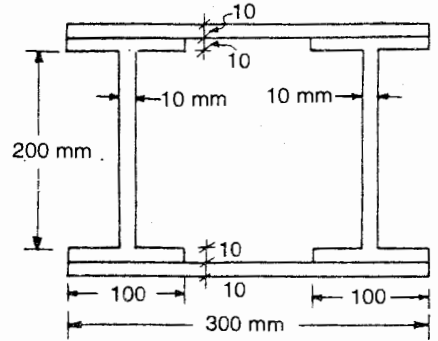

Fig. 6.32
9. Determine the I_{xx} and I_{yy} of the compound section shown in figure. 6.32